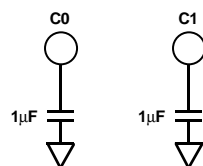

Figure 18. AD1849K External Filter Capacitor Connections
Figure 18 illustrates signal-path filtering capacitors, C0 and C1. The AD1849K must use 1.0  $\mu\text{F}$  capacitors.
- The Analog Devices AD1849K uses two external capacitors to complete its internal input filter as shown in Figure 18. The CS4215 calls the two pins on the AD1849K for these capacitor connections, “no connects.” By laying out a board with these capacitors, either chip will work.